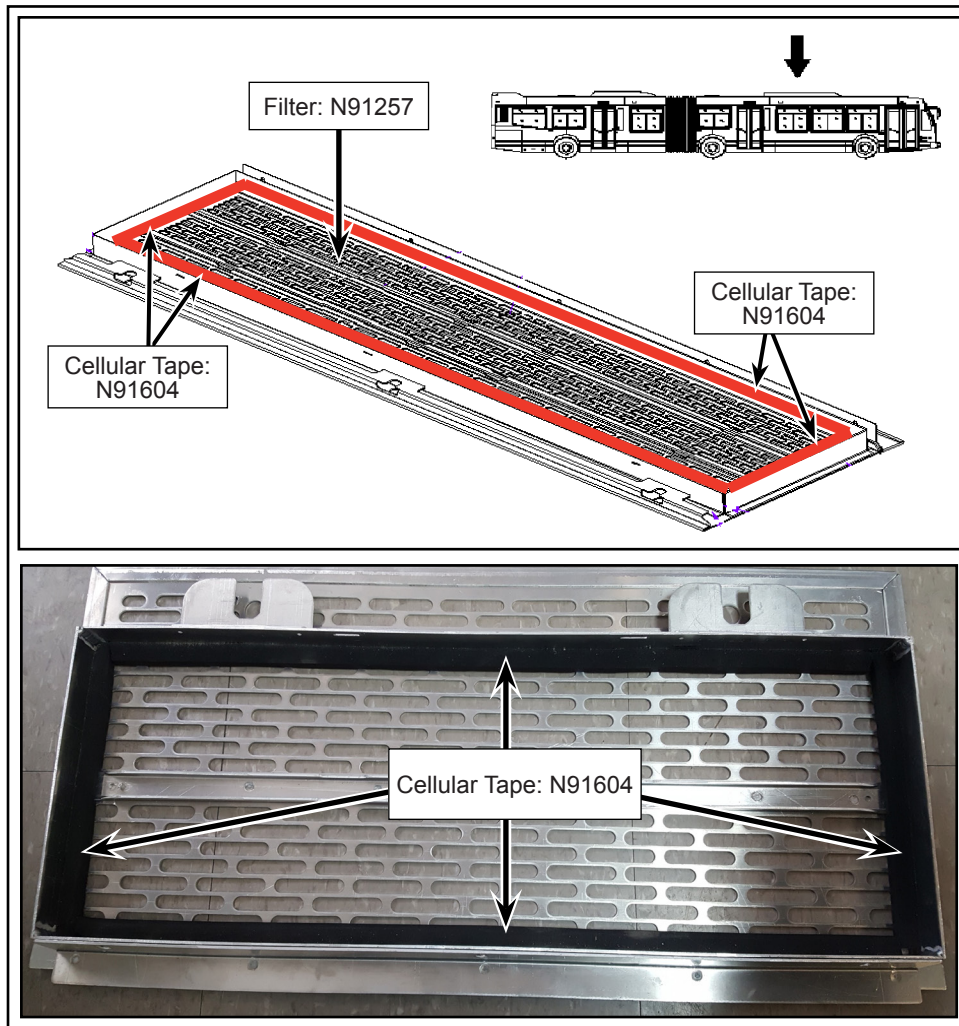

Figure 4 - Installation of Cellular Tape and Filter (Front Section)
- 1.7. Install new indicated cellular tape on the interior perimeter of grill assembly (see Figure 4) and ensure that there are no gaps left.
- 1.8. Replace the existing filter with the new rigid border filter as shown (see Figure 4).